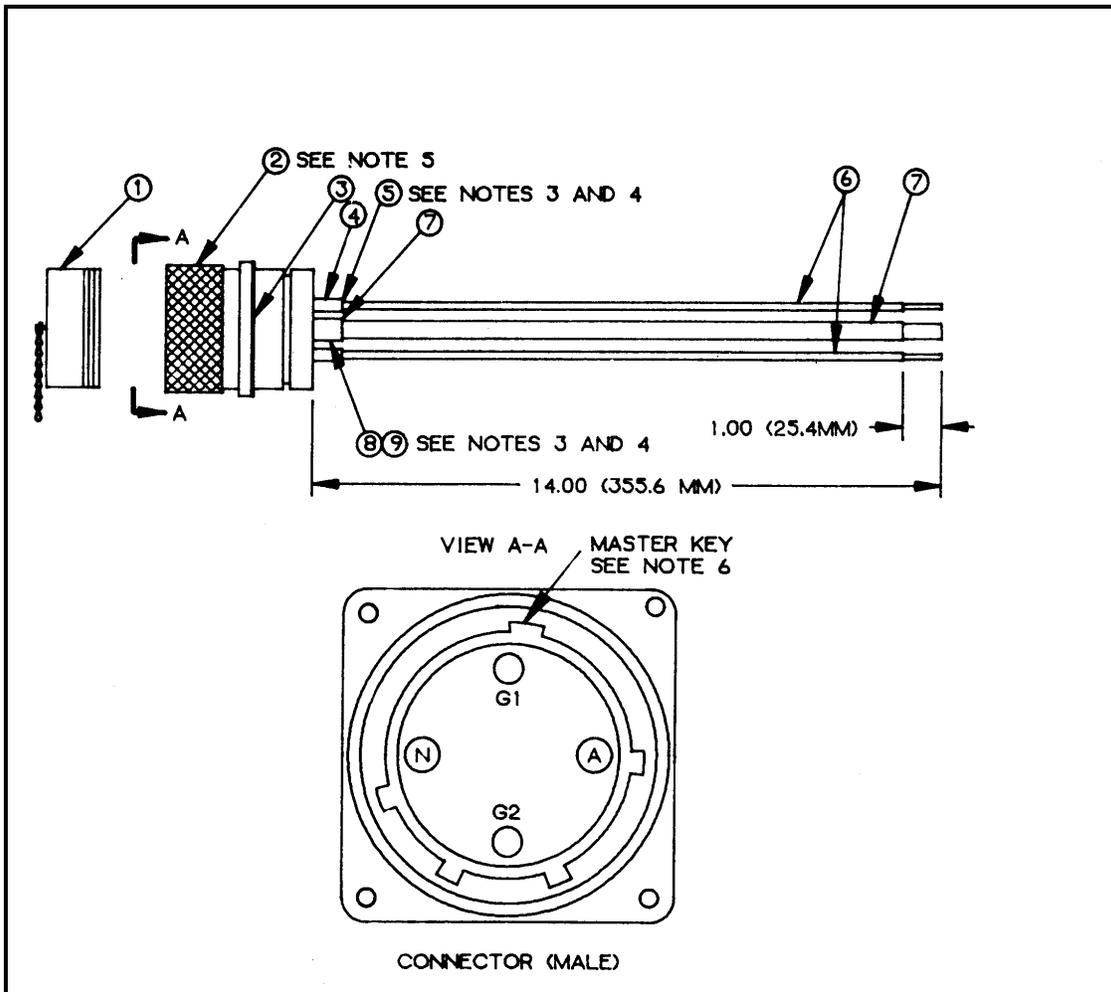

Figure F-10. M60, 60-Amp, Input Connector, (J1).
Component Legend for Figure F-10
- c. Electrical connector (Figure F-10, Item 2) is furnished with the following: